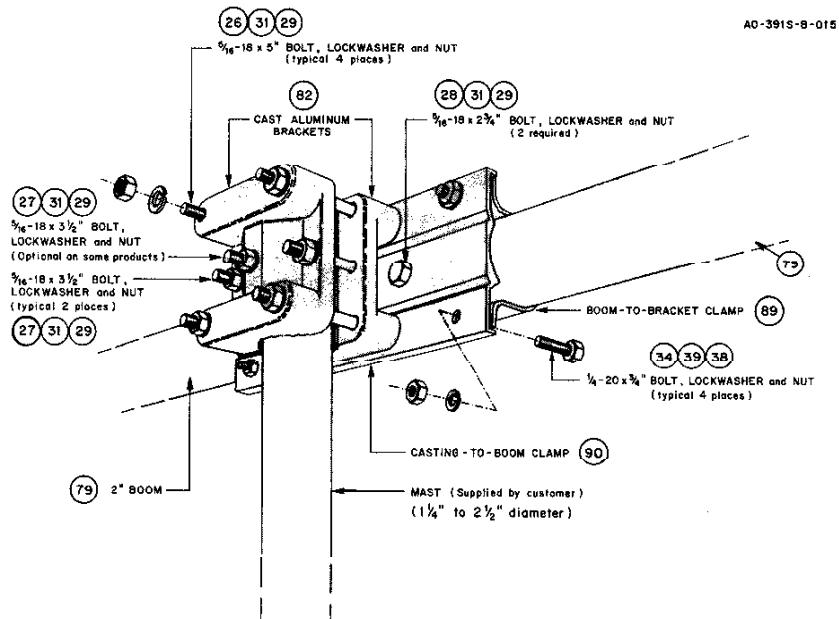

Figure 1
Select the boom-to-bracket clamp parts (Items 89 and 90). Loosely assemble them on the boom ends (Item 79), as shown in Figure 1. Line up the holes on both brackets and both boom ends. Secure the two brackets together with four $\frac{1}{4}$ "-20 x $\frac{3}{4}$ " bolts, nuts and lockwashers. Secure the brackets to the two boom ends using the $\frac{5}{16}$ "-18 x $2\frac{3}{4}$ " bolts, nuts and lockwashers. Tighten these six bolts securely.
Assemble the two cast aluminum brackets (Item 82) on the mast at the desired height above your tower. Secure the two brackets together using the two $\frac{5}{16}$ "-18 x $3\frac{1}{2}$ " bolts, nuts and lockwashers. You may wish to drill a hole through your mast so that the remaining $\frac{5}{16}$ "-18 x $3\frac{1}{2}$ " bolt may be inserted through the cast brackets and the mast and tightened. This bolt will prevent the antenna from twisting on the mast in high winds. See Figure 1. The four (4) 5 inch bolts will be installed when the antenna is installed on the mast.